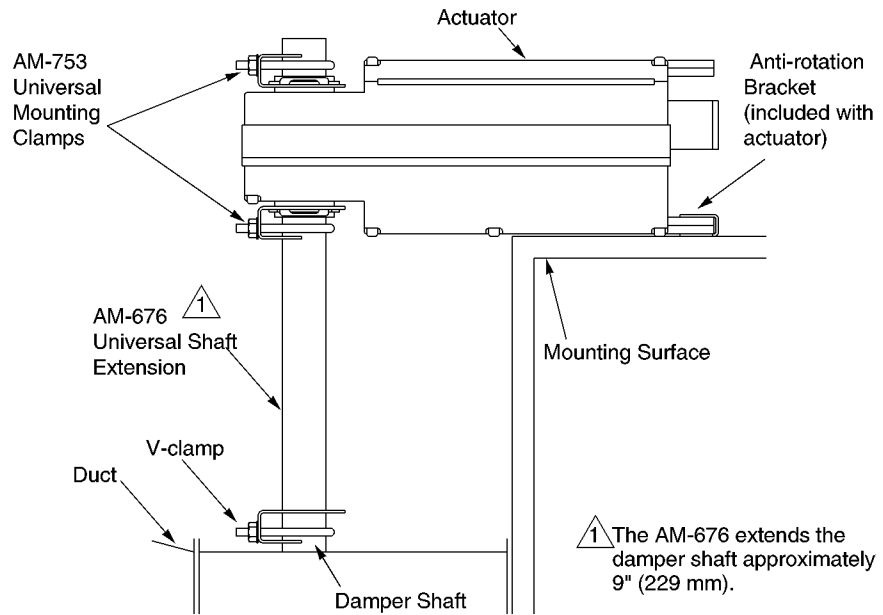

Figure-13 Installation of Universal Shaft Extension.
See Figure-13 for installation of actuator using the AM-676 Universal Shaft Extension. Installation requires AM-676 Universal Shaft Extension and AM-753 Universal Mounting Clamps for 3/4" to 1" (19 to 25 mm) shafts, these items must be ordered separately.
8. Position the actuator and bracket in the desired final mounting position on the mounting surface and drill mounting holes. See Figure-13.